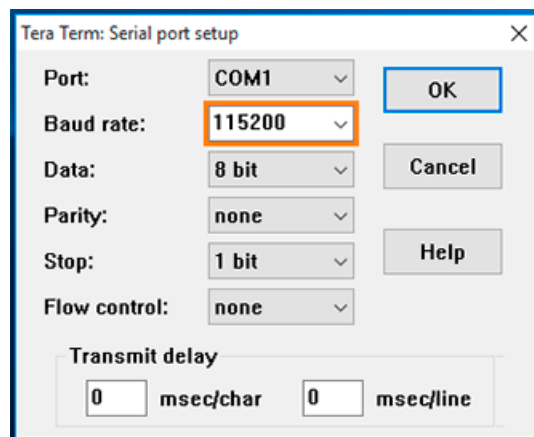

Figure 5-4. COM Port Settings
- b.) The example in Figure 5-4 shows settings for the COM Port: